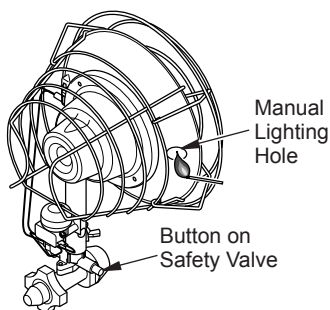

Figure 4 - Lighting Heater With a Match
- Place a lit match near the face of the heating element (mesh screen) of the burner you are lighting, using the hole located on the side of the reflector. See Figure 4.
- Press button on safety valve admitting gas to burner (see Figure 4).